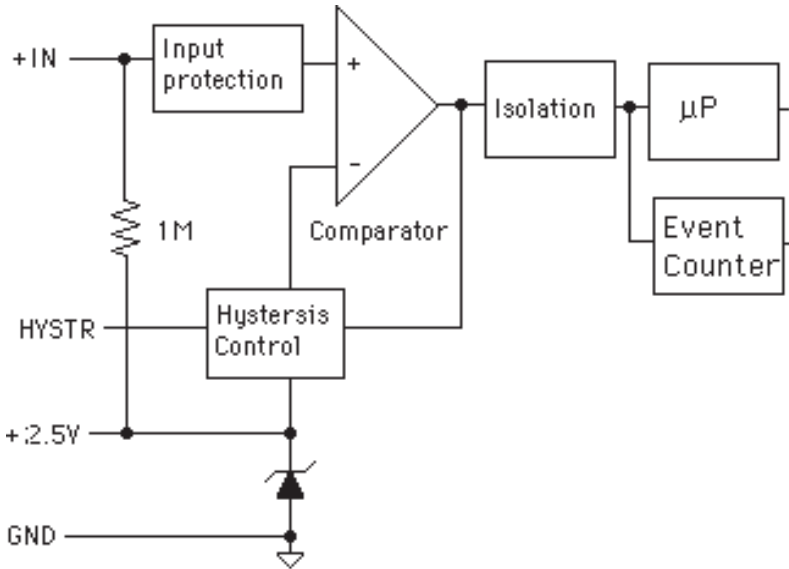

Figure B-5. Accumulator Block Diagram.
The Accumulator models are: SCM9B-1631, SCM9B-2631, SCM9B-1632, SCM9B-2632, SCM9B-1641, SCM9B-2641, SCM9B-1642 and SCM9B-2642 are designed for applications that require reading and accumulating pulse type information. They can accumulate the output of pulse type flow meters or keep track of power consumption by interfacing with a power meter. The Accumulator modules combine a frequency or pulse input circuit with an event counter. These modules allow a host computer to read both rate and total count of events. As shown in figure B-5 the input signal is passed through a comparator and the output of the comparator is sent to the microprocessor and to an event counter. Use the Read Data (RD) command to read the instantaneous value or rate of the frequency or pulse input. Use the Read Events (RE) command to read the total of events since the last time the event counter was cleared. Use the Events Clear (EC) command to read the total of events since the last time the event counter was cleared and clear the counter. The event counter will count up to 10 million transitions.